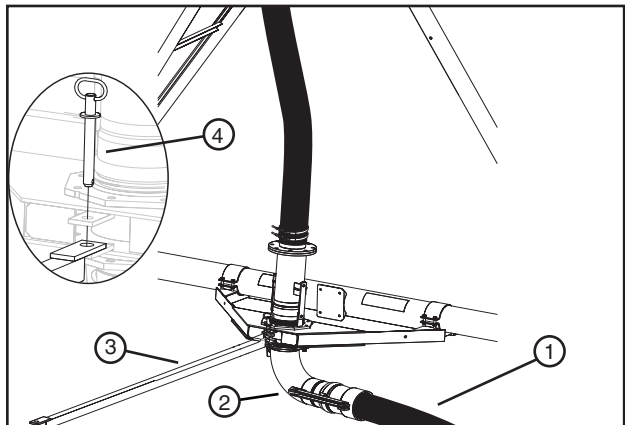

Figure 64-3 1. Hose 2. Elbow Inlet (Tee Inlet Not Shown) 3. Tongue 4. Torque Pin
- Disconnect the hose from the inlet tube at the elbow. See figure 64-3
- Attach the tongue to the hose pull frame with torque pin. See figure 64-3.